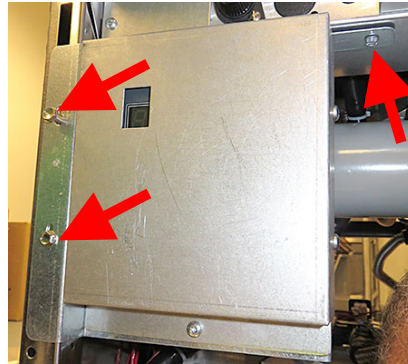

Figure 18
23. Remove the two (2) screws on the left side of the MIB bracket and loosen the top screw (see Figure 18).